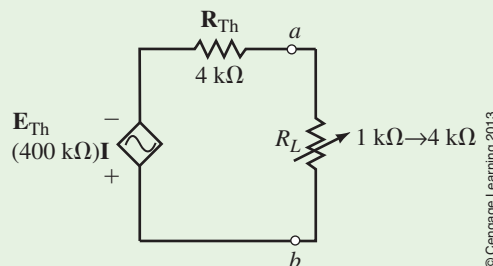

FIGURE 20-39
Step 5: Because the Thévenin voltage is a dependent voltage source we use the appropriate symbol when sketching the equivalent circuit, as shown in Figure 20-39.